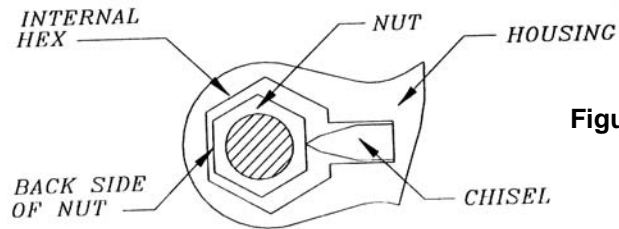

Figure 6
2. Place the internal hex of the housing over the nut. Pull the housing against the back side of the nut, with the nut centered on the back side of the internal hex. The housing of the nut splitter should be flat on the surface of the flange. The cutting chisel should be as close to the bottom of the nut as possible and be centered on a flat of the nut (see *Figure 6*).